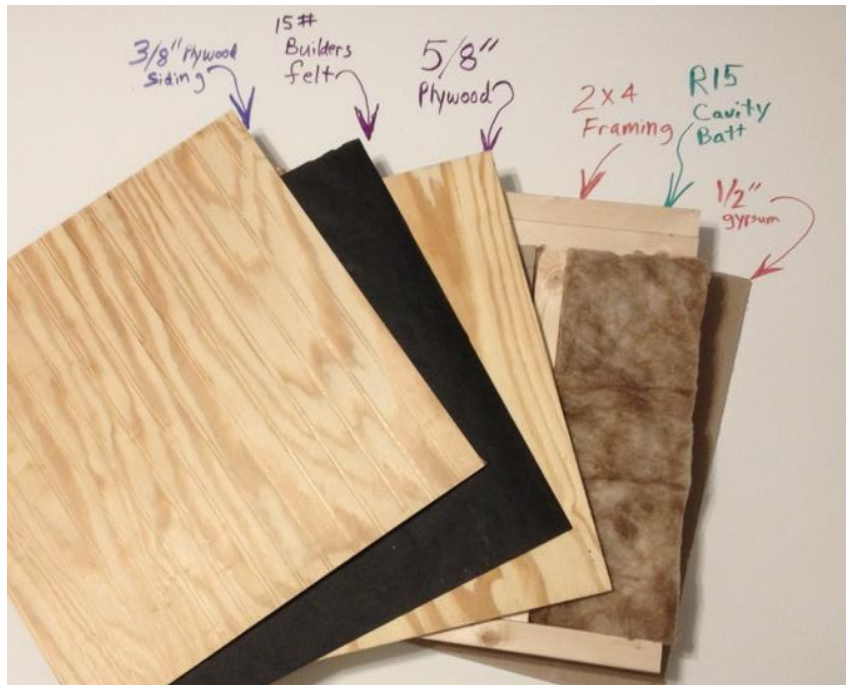

Figure 2: Sample Wall - Zone 3 and Zone 4
**Zone 3:** Refer to Figure 2 and Figure 3 for illustrations of sample wall
In Figure 1, page 4, the wall material values shown in Table 1 (page 2) are entered into the formula that is required for performing the parallel flow method. See Figure 1 for the formula and the results. Pictures of the sample wall are shown in Figures 2 and 3, page 5. Air films are not shown. This is the method used for wooden stud walls. This method is described in full in the ASHRAE Handbook of Fundamentals and is also described in the ResCheck User's Manuali. Although there is not a 2018 NC-Specific ResCheck, the user's manual still has valuable descriptions and data in it that can be utilized. The formula format and variable description follows the variables used in ResCheck for the most part, but in developing this document, some of the variables were simplified because there were some values that were "lumped together" in the ResCheck documentation, which makes it difficult for subsequent users to see where all the values actually come from and reproduce the results. In an effort to avoid this, and to make it transparent where all the values come from, the variables were changed slightly and expanded from the variable description used in the ResCheck example shown in Appendix A.2.1 Wood-frame walls.